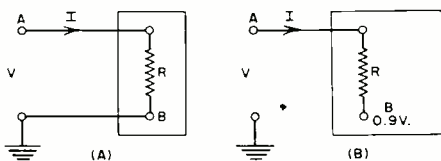

Fig. 1. Equivalent circuits, emitter-follower.
Fig. 1. (A) All components tied to the control connections may be installed in a small box located at a remote distance from equipment being controlled. (B) The d.c. for "Raysistor" may be obtained from the heater circuit.
Let us consider first how we can increase the input impedance of an emitter-follower. Fig. 1 represents such a transistor circuit having an equivalent input resistance R .